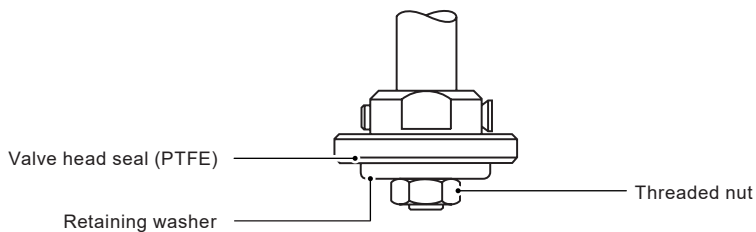

Fig. 11 Plug and seat seal arrangement for the standard version
- Reassemble in reverse order referring to the drawings showing correct location of components, see Figure 11 and torque settings.